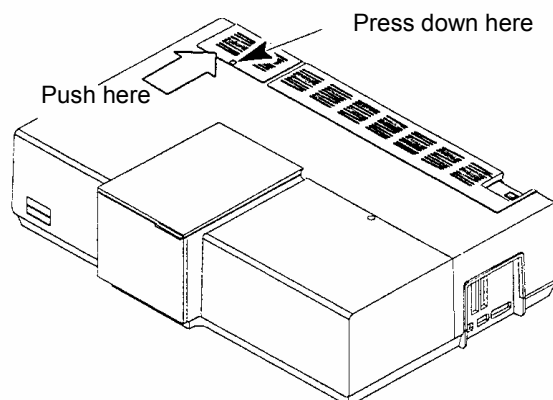

Figure 18 Removing the lamp compartment cover
2. Remove the lamp compartment cover by pressing down the catch and carefully pushing cover to the rear until the catch is free and you can lift off the cover, as shown in Figure 18.